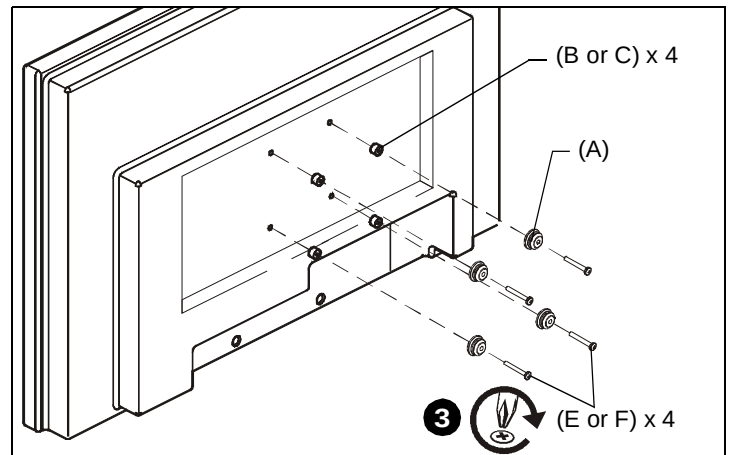

Figure 2
2. Place mounting buttons (A) over four spacers (B or C). (See Figure 2)
3. Assemble mounting buttons (A) to display using four M4 x 25mm (E) or four M4 x 30mm (F) Phillips pan head screws through spacers. (See Figure 2)
1. Align and place four spacers (B or C) over mounting holes in display back. (See Figure 2)